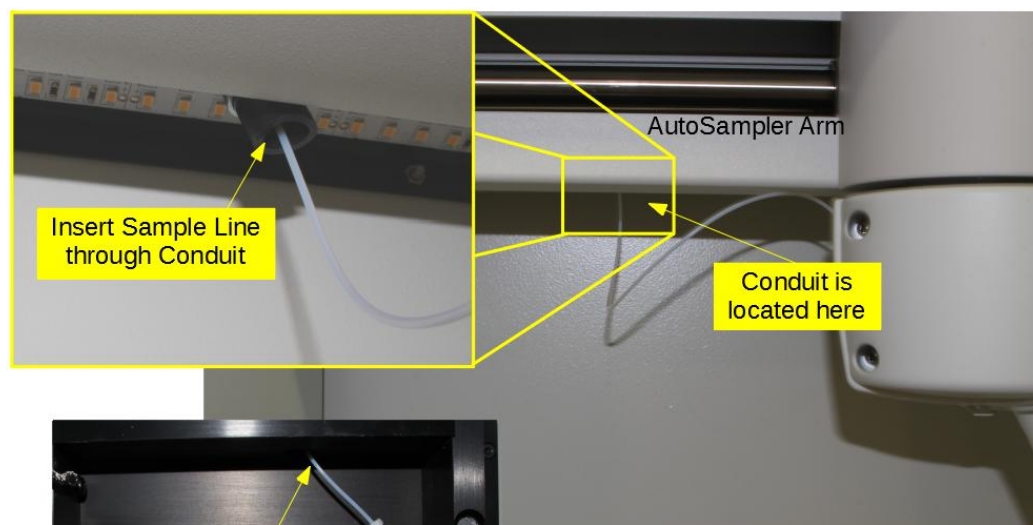

Figure 2: Location of *Conduit* for *Sample Line*.
- Starting from inside the Instrument, feed the *Sample Line* (344480) through the conduit until it protrudes into the *Optics Housing* as shown in **Figures 2 & 3**.